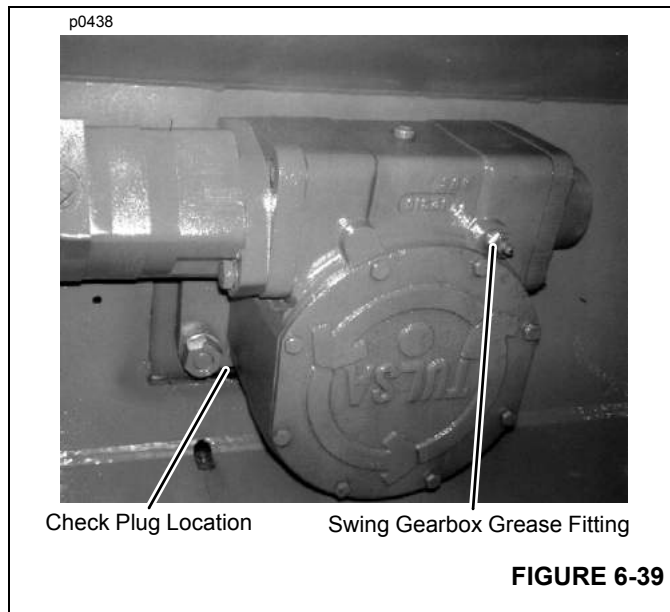

FIGURE 6-39
2. Clean the grease fitting and check plug (Figure 6-39).